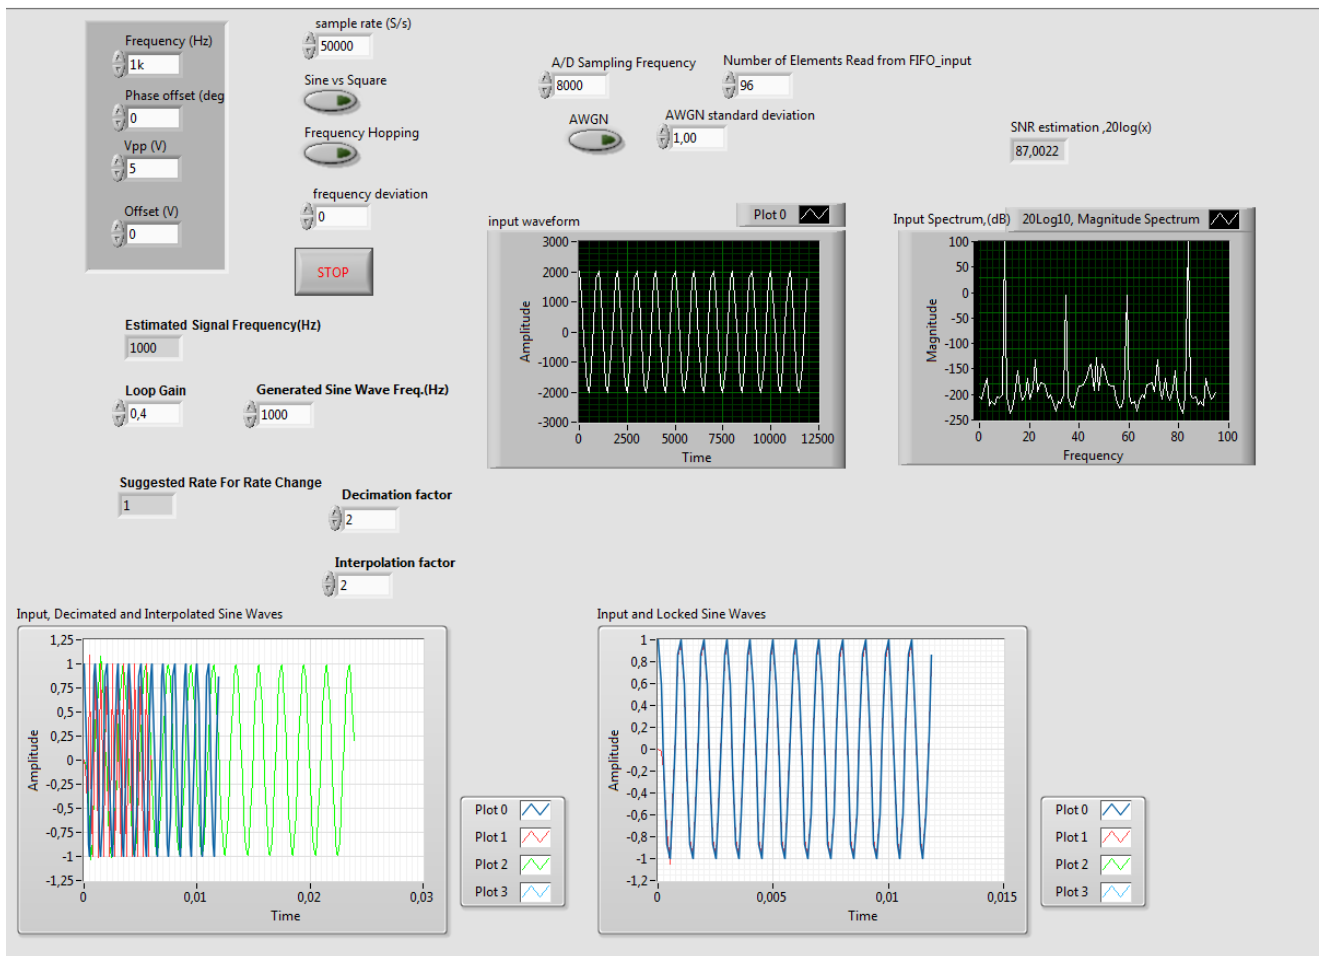

Fig. 8. Front Panel for Experiment 4.
Fig. 8 shows the front panel for Experiment 4.
- 1) Adjust your program parameters as shown in Fig. 8 and run your program. Observe if the PLL locks onto the input frequency/phase or not. Change the **“Phase offset”** on the upper left part of the front panel to see if the PLL correctly follows the input signal.
- 4) Return to the **original settings in Fig. 8**. Now change the **input frequency to 2008 Hz**. Also adjust the Decimation and Interpolation factors. What happens to the PLL output? What should be the value for the **decimation and interpolation factors** to observe PLL lock? **Repeat the same steps for 505Hz**.
- 5) Return to the **original settings in Fig. 8**. Press the **AWGN button** to add white noise to the input signal. Observe the **“Estimated Signal Frequency”** while you **increase the noise standard deviation**. At which value, estimated frequency starts to change? What can you say about the detection method optimality?
- 6) Return to the **original settings in Fig. 8**. Choose the **frequency deviation as 1Hz**. Apply **frequency hopping mode**. Observe if the PLL locks onto the frequency hopping signal. Now start to **increase the frequency deviation in 1Hz steps**. Determine the value for frequency deviation where the PLL **does not lock onto the signal any longer**. Report this value. **Comment on the differences** between this step and step 2.